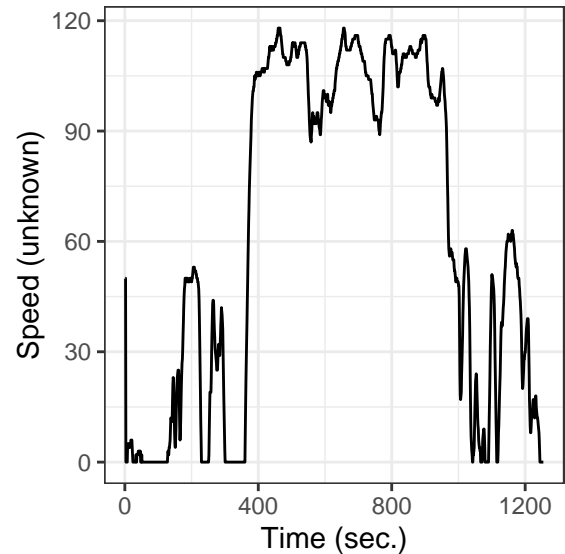
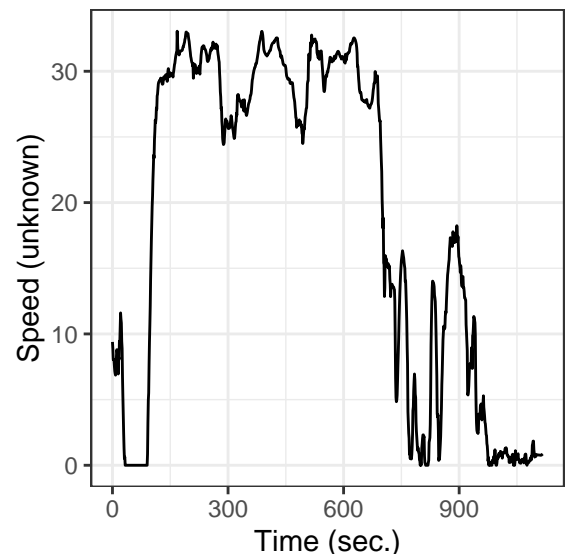

Fig. 1. A sample of speed graph of OBDII (the 1st trip).
Fig. 2. A sample of speed graph of Smartphone (the 1st trip).
**Visualization of sample trips.** Fig 1 shows the speed graph of a sample trip from OBDII data. As we can see, the OBDII trip was recorded for about 1,200 seconds and we do not know the unit for the recorded speed. Fig 2 shows the speed graph of a sample trip from mobile data. Note that the scale of x-axis has been adjusted as zero. By examining the data set little bit, it can be easily realized that the first trip from each source corresponds to each other as in Fig. 1 and Fig 2. As we can see the whole trip data from smartphone corresponds to the trip data from OBDII around 300 seconds.